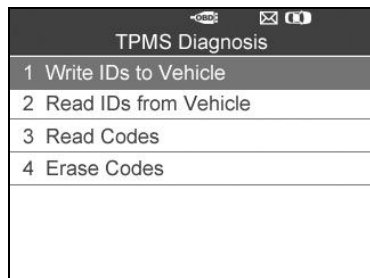

Figure 3.21
- 1) From the TPMS Diagnosis menu, use **UP/DOWN** scroll button to select the **Write IDs to Vehicle** function item. (Figure 3.21)
- 1) From the TPMS Diagnosis menu, use **UP/DOWN** scroll button to select the **Read IDs from Vehicle** function item. (Figure 3.21)
- 1) From the TPMS Diagnosis menu, use **UP/DOWN** scroll button to select the **Read Codes** function item. (Figure 3.21)
- 1) From the TPMS Diagnosis menu, use **UP/DOWN** scroll button to select the **Erase Codes** function item. (Figure 3.21)